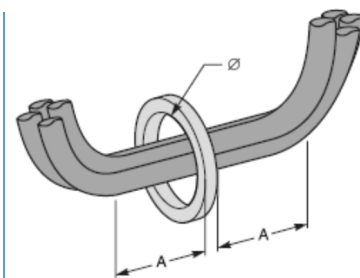

Fig. 6
5. Place the toroid on a straight section of cable, not near a bend (see Fig. 6)